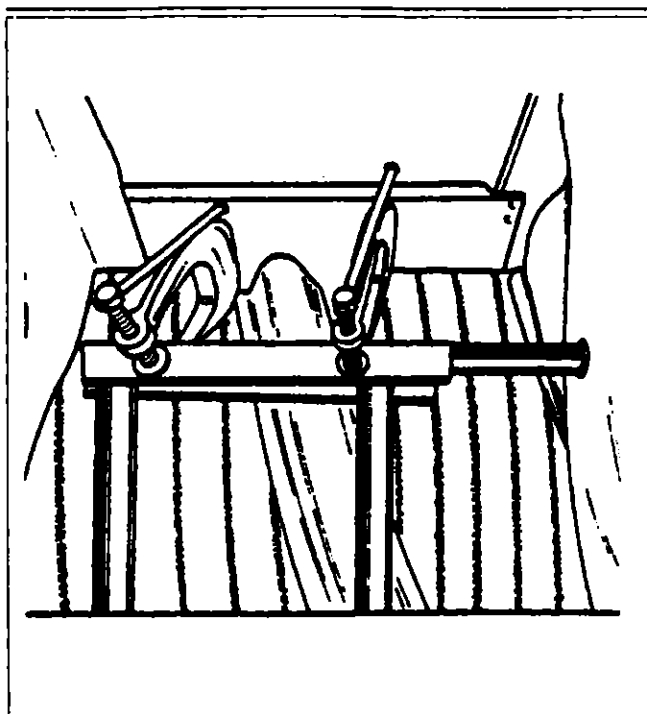
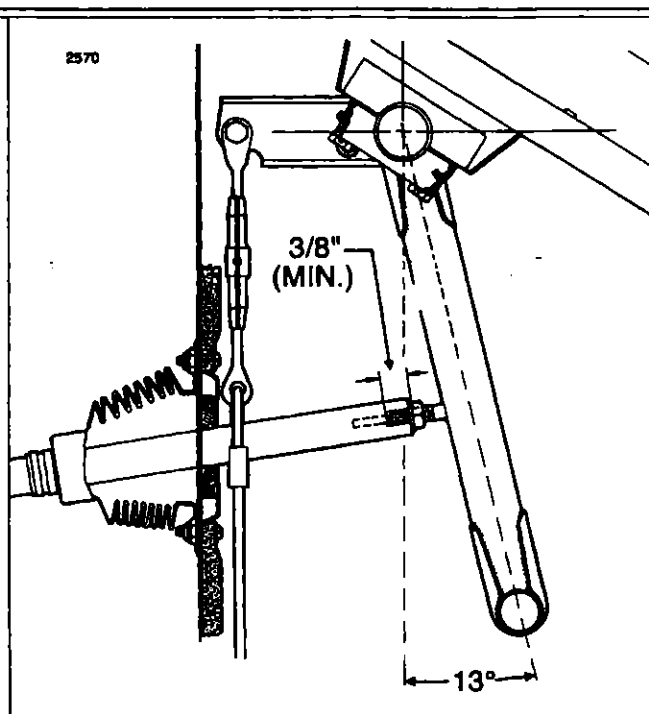

Figure 6-4.
Figure 6-5.
- (e) Stand in front of the nose landing gear and orient the tire with the chalk line. Sight along the center rib of the tire. With the rudder pedals clamped in neutral position (refer to Figure 6-4), adjust the rod ends of each nose gear steering rod to position the cockpit rudder pedals fore and aft. The centered angle of the rudder pedals is 13 degrees aft of the vertical position (refer to Figure 6-5) with the airplane level. Place a bubble protractor against the pedal steering tube to check this angle. Do not attempt to make the adjustment by means of one rod end bearing, but divide the adjustment between the bearings at each end of the steering rod. A three-eighths inch minimum thread engagement must be held. Check by inserting a wire in the check hole of the rod.
- (d) Turn the nose wheel until the center line marked on the jig aligns with the plumb bob. With the rudder pedals clamped in neutral position (refer to Figure 6-4), adjust the rod ends of each nose gear steering rod to position the cockpit rudder pedals fore and aft. The center line of the rudder pedals is 13 degrees aft of the vertical position (refer to Figure 6-5) with the airplane level. Place a bubble protractor against the pedal steering tube to check this angle. Do not attempt to make adjustments by means of one bearing but divide the adjustment between the rod end bearings at each end of the rod. A three-eighths inch minimum thread engagement must be held.